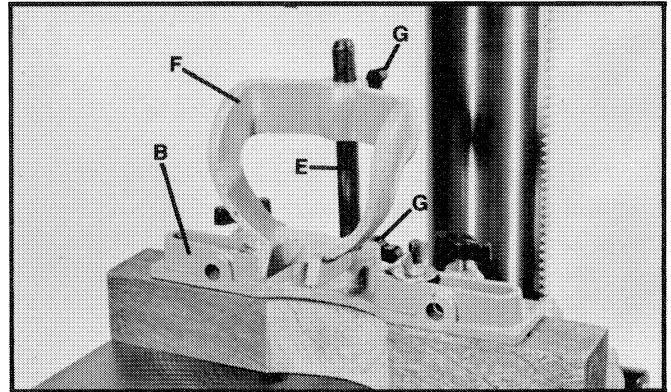

Fig. 12
2. Assemble the vertical bar (E) to the hole in the hold-down bracket (B) and assemble the holddown arm (F) to the vertical bar, as shown in Fig. 12. Lock in place with the two thumb screws (G).